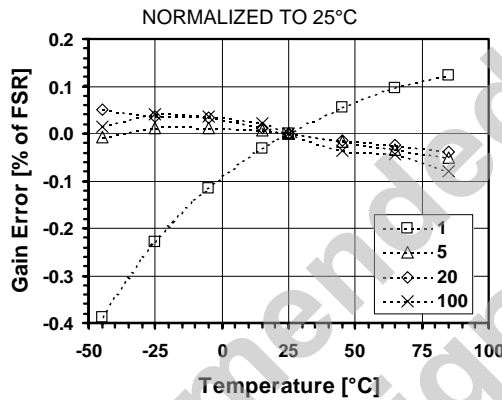

Figure 16-19 Gain error vs. temperature for different PGA gains
- (7) Resolution is given by  $n = 2 \cdot \log_2(OSR) + \log_2(N_{ELCONV})$ .  $OSR$  can be set between 8 and 1024, in powers of 2.  $N_{ELCONV}$  can be set to 1, 2, 4 or 8.
- (8) If a ramp signal is applied to the input, all digital codes appear in the resulting ADC output data.
- (9) Gain error is defined as the amount of deviation between the ideal (theoretical) transfer function and the measured transfer function (with the offset error removed). (See Figure 16-19)
- (10) Offset error is defined as the output code error for a zero volt input (ideally, output code = 0). For  $\pm 1$  LSB offset,  $N_{ELCONV}$  must be  $\geq 2$ .
- (11) INL defined as the deviation of the DC transfer curve of each individual code from the best-fit straight line. This specification holds over the full scale.
- (12) DNL is defined as the difference (in LSB) between the ideal (1 LSB) and measured code transitions for successive codes.
- (13) Figures for Gains = 1 to 100. PSRR is defined as the amount of change in the ADC output value as the power supply voltage changes.
- (14) Conversion time is given by:  $T_{CONV} = (N_{ELCONV} \cdot (OSR + 1) + 1) / f_s$ .  $OSR$  can be set between 8 and 1024, in powers of 2.  $N_{ELCONV}$  can be set to 1, 2, 4 or 8.
- (15) PGAs are reset after each writing operation to registers **RegAcCfgr1-5**. The ADC must be started after a PGA or inputs common-mode stabilisation delay. This is done by writing bit Start several cycles after PGA settings modification or channel switching. Delay between PGA start or input channel switching and ADC start should be equivalent to  $OSR$  (between 8 and 1024) number of cycles. This delay does not apply to conversions made without the PGAs.
- (16) Nominal (maximum) bias currents in PGAs and ADC, i.e. **IB\_AMP\_PGA[1:0] = '11'** and **IB\_AMP\_ADC[1:0] = '11'**.
- (17) Bias currents in PGAs and ADC set to 3/4 of nominal values, i.e. **IB\_AMP\_PGA[1:0] = '10'**, **IB\_AMP\_ADC[1:0] = '10'**.
- (18) Bias currents in PGAs and ADC set to 1/2 of nominal values, i.e. **IB\_AMP\_PGA[1:0] = '01'**, **IB\_AMP\_ADC[1:0] = '01'**.
- (19) Bias currents in PGAs and ADC set to 1/4 of nominal values, i.e. **IB\_AMP\_PGA[1:0] = '00'**, **IB\_AMP\_ADC[1:0] = '00'**.
Figure 16-19 shows gain error drift vs. temperature for different PGA gains. The curves are expressed in % of Full-Scale Range (FSR) normalized to 25°C.